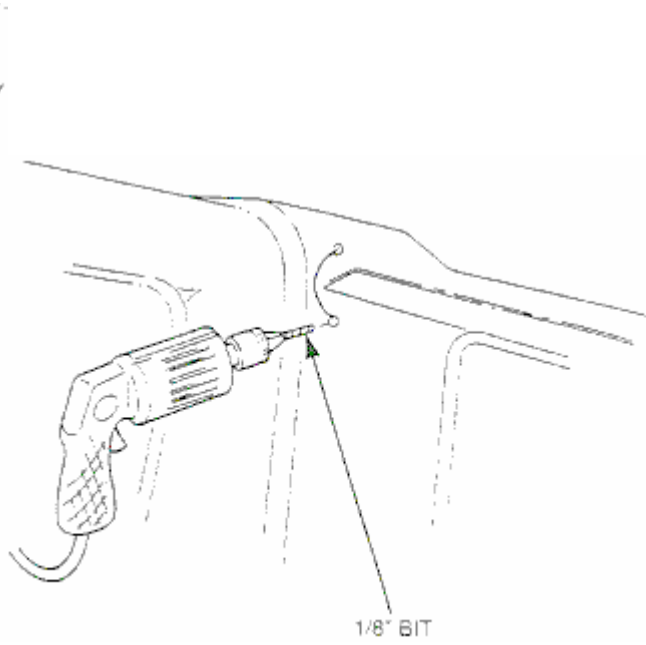

FIGURE 5
17. Drill out the ends of the cracks with a 1/8" bit (refer to Figure 5).